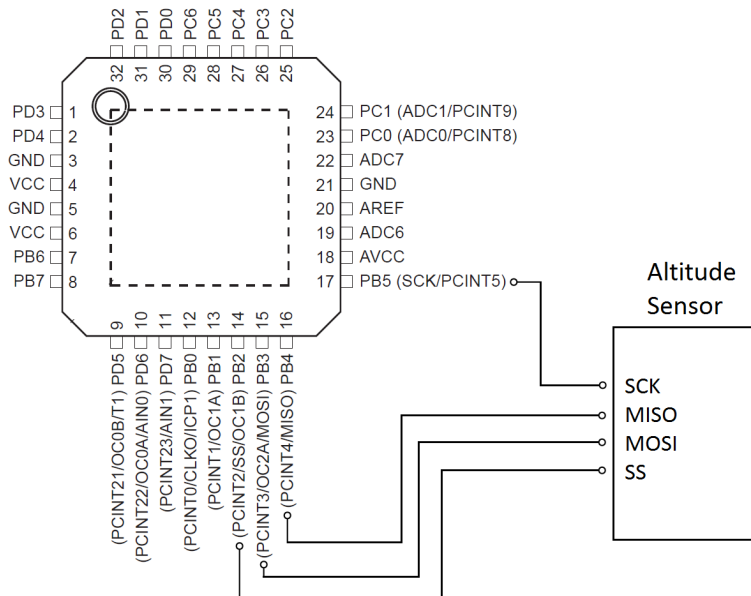

Figure 1: Hardware configuration of the controller.
2. [30 points]: You need to implement a simple controller to monitor the altitude of an RC airplane in flight. The altitude is measured by an on-board altitude sensor that supports a standard SPI slave interface (refer to Figure 1).